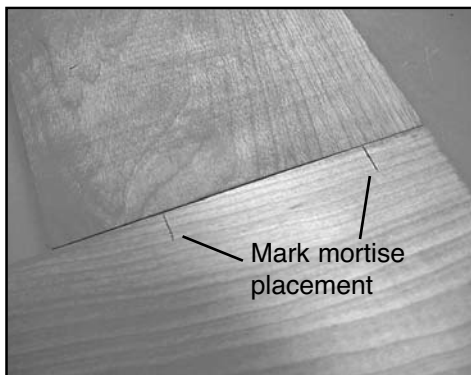

Fig. 14
2. Mark mortise on your stock. (Fig. 14)